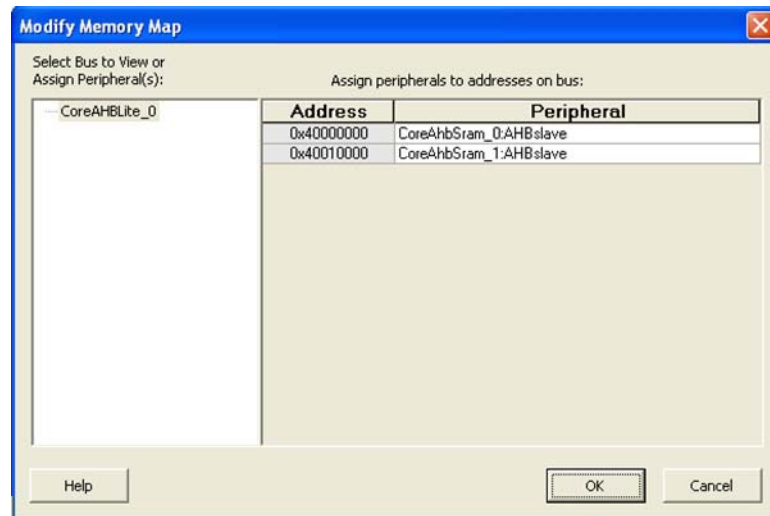

Figure 1-6 · AHBLite Memory Map
**Automatic Connection** - The SmartDesign auto-connect feature (available from the SmartDesign Menu, toolbar or by right-clicking the Canvas) automatically connects the subsystem clocks and resets and present you with a memory map editor where you can assign the AHBLite slaves to the proper addresses (Figure 1-6). Note that the auto-connect feature